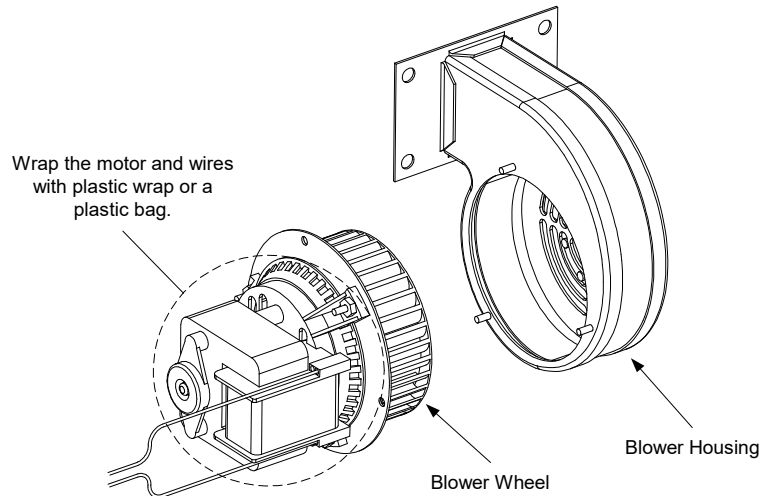

Figure 10
3. Wrap the motor with plastic wrap to prevent water from entering it (see Figure 10). Spray degreaser or detergent on the blower wheel and the blower housing. Allow it to soak for five minutes. Rinse the wheel and housing with hot tap water, then dry with a clean cloth.